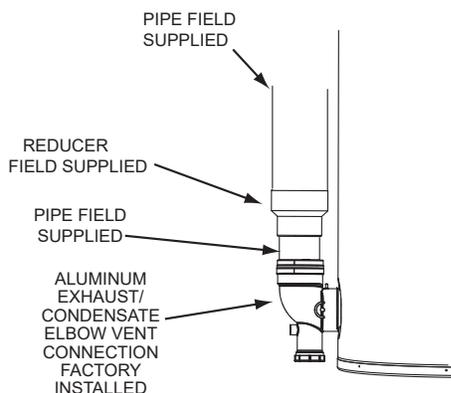

Figure 20. Vent (Exhaust) Connection
11. If installing a different diameter pipe, transition to smaller diameter pipe at the exhaust elbow on the water heater as shown in *Figure 20* (page 34). The field installed pipe between the exhaust elbow and the reducer coupling should be 18 inches (45 cm) or less in length.
- If installing a different diameter vent pipe, transition to pipe at the exhaust elbow on the water heater as shown in **Figure 20** (page 34). The field installed pipe between the exhaust elbow and the reducer coupling should be 18 inches (45 cm) or less in length.
- if installing 6" air intake pipe, transition to 4" pipe at the intake air connection on the water heater as shown in figure 20. The field installed 4" pipe between the intake air connection and the 6x4 inch reducer coupling should be 18" or less in length.